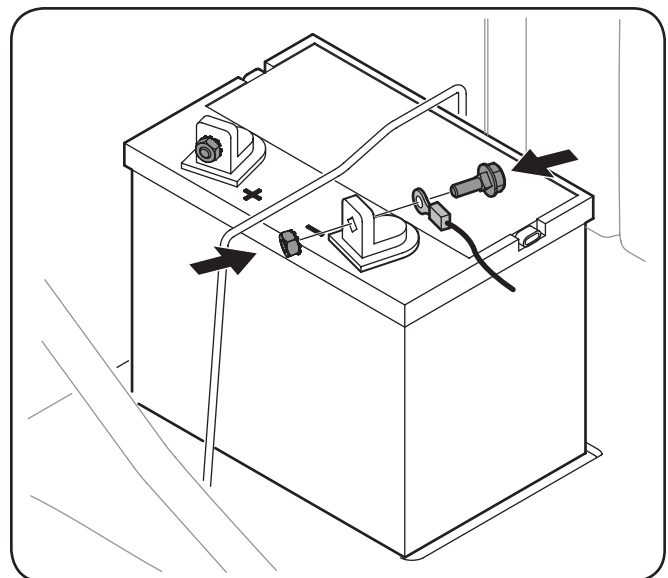

Figure 3-2
2. Remove the black plastic cover, if present, from the negative battery terminal and attach the negative cable to the negative battery terminal (-) with the bolt and hex nut. See Fig. 3-2.